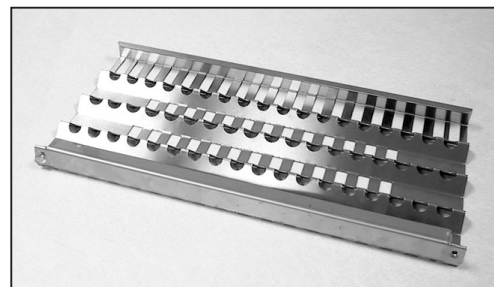

FIG.11
1. Unpack ceramic rods and remove radiant (Fig. 11) from the unit.